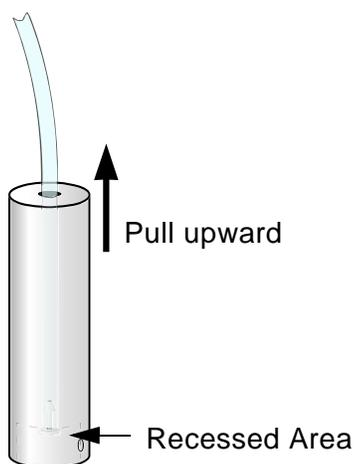

Figure 3. Pulling Tubing Upward
- 7 Gently pull the tubing upward until the barbed fitting seats itself within the recess of the tubing weight, as shown in Figure 3.